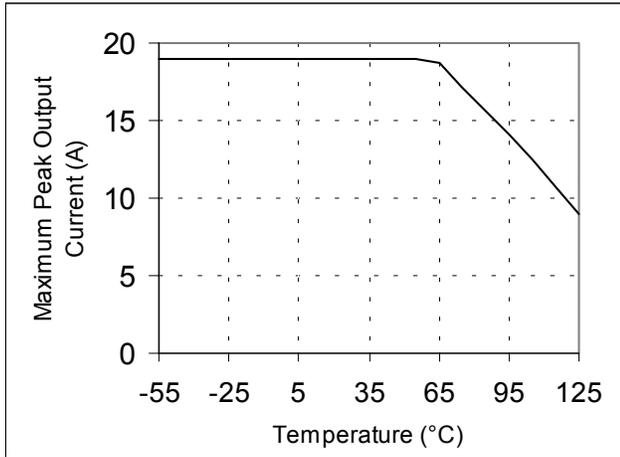

Figure 6. Maximum Non-repetitive Output Current vs. Case Temperature (pulse width ≤ 10 ms).
1. Non-repetitive, pulse width ≤ 10 ms, $T_C = 25^\circ\text{C}$ (see Figure 6).